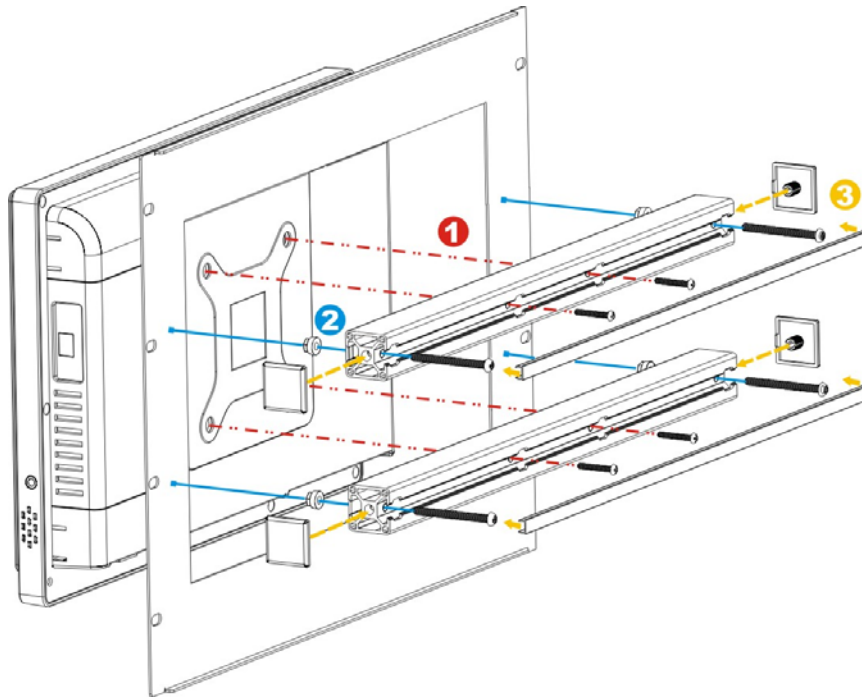

Figure 3-20: Secure the Rack/Cabinet Bracket
- Step 2:** Secure the two rack mounting brackets to the rear of the panel PC by inserting the four retention screws into the VESA mounting holes (**Figure 3-20 ①**).
- Step 3:** Insert the rack mounting clamps into the holes of the rack mounting brackets (**Figure 3-20 ②**). There are a total of 4 rack mounting clamps for AFL2-W15B-H61.
Step 5: Install the covers into the rack mounting bracket. Each mounting bracket includes two side covers and one top cover (**Figure 3-20 ③**).